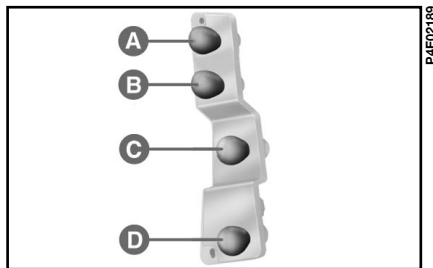

fig. 24
3) Remove the bulb group **fig. 24**.
The bulbs **fig. 24** are: